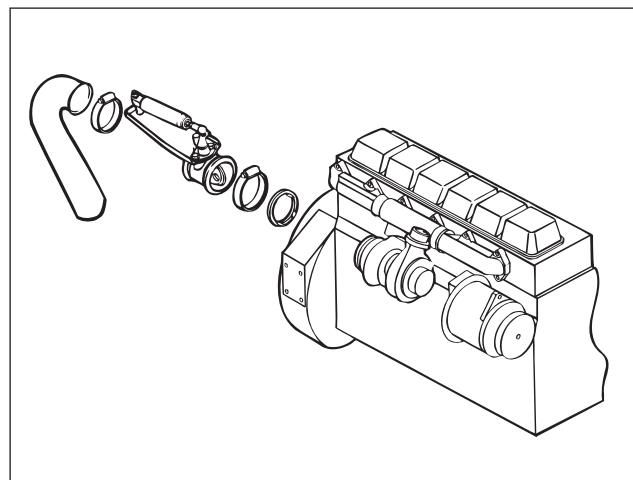

FIG. 2
Refer to Figure 2 for the following procedures.
3. The E Brake assembly is mounted to the turbo outlet using the gasket and clamp provided (see Figure 2). The gasket is coated with an adhesive to ease installation. Remove the backing from the adhesive and apply the gasket to the turbo outlet, taking care to center the gasket.